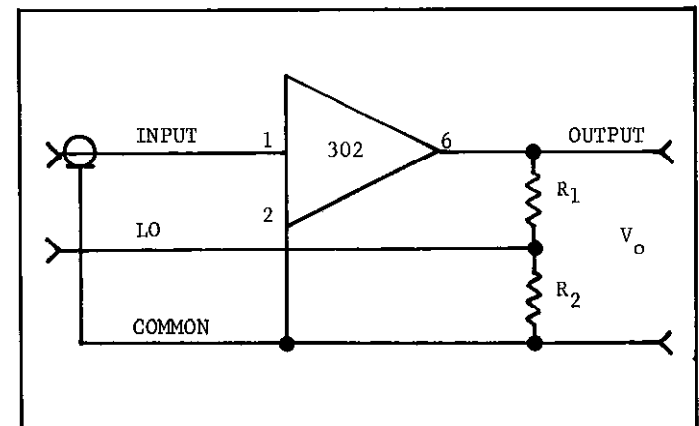

FIGURE 12. Voltage Gain Amplifier.
g. Voltage Gain Isolation Amplifier. In this configuration, a resistor divider is used to provide voltage gain while maintaining high input impedance. The input voltage signal is applied between the Input (Pin 1) and the divider network as shown in Figure 12. The output voltage is developed between the Output (Pin 6) and Common (Pin 2). Since the common terminal is isolated from the input LO terminal, a floating power supply and monitoring device must be used.